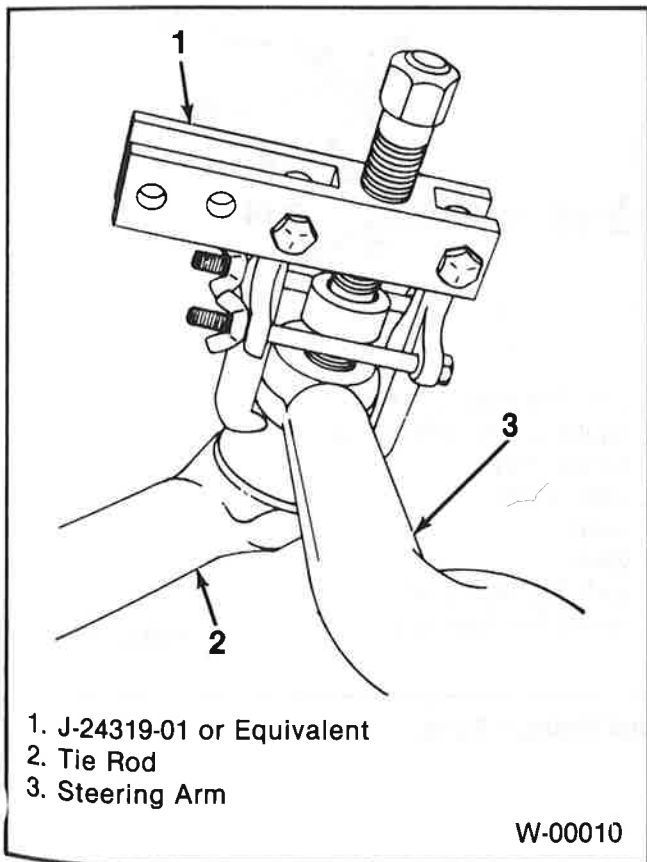

Figure 7. Removing Tie Rod End
↔ Remove or Disconnect (Figures 7 and 8)
1. Cotter pin (12) and nut (10).
2. Tire rod end (16) from the right steering arm (4). Use tool J-24319-01, or equivalent (figure 7).
3. Nut (8).
4. Right steering arm (4).
- b. Remove the nut (8) and discard.